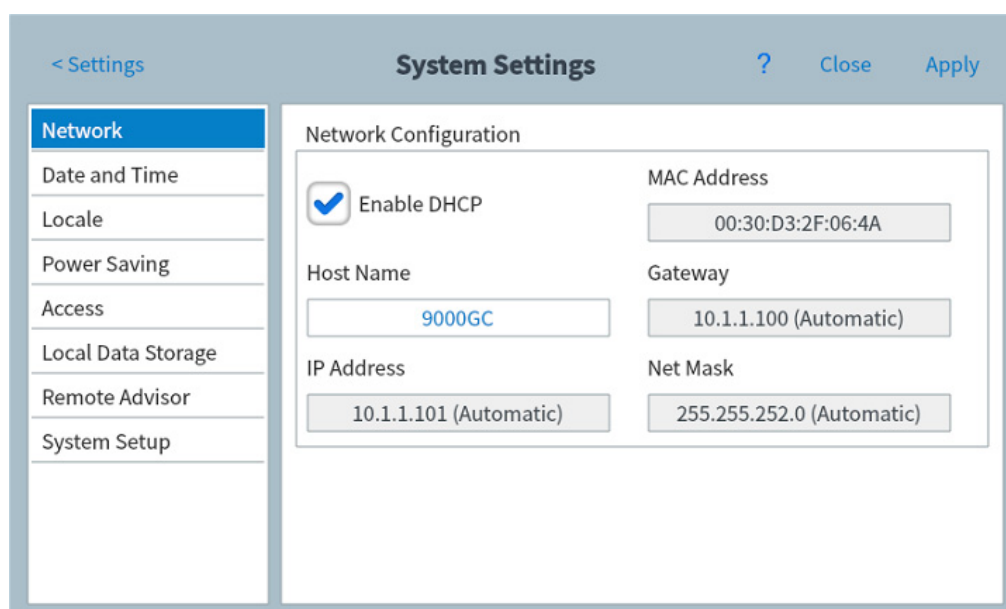

Figure 43 System Settings page
- 2 Press **System Settings**. The System Settings page appears. See Figure 43.